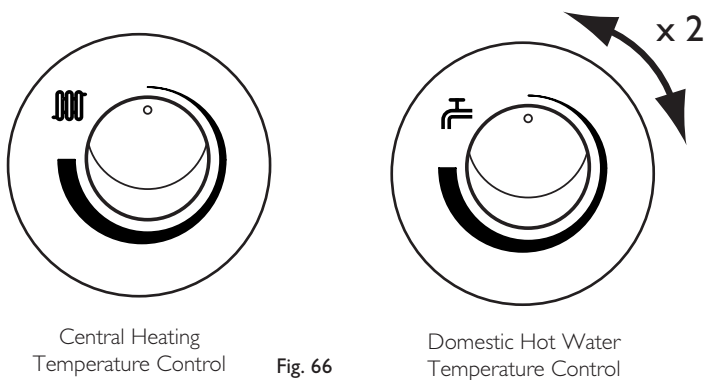

Fig. 66
3. Ensure that the integral timer and any external controls are calling for heat, and the selector switch is in the central heating and hot water position (000). The current boiler temperature is shown on the display.
5. Turn both temperature control knobs fully anticlockwise, then quickly turn the DHW temperature knob 1/4 clockwise twice and back fully anticlockwise (Fig. 66).